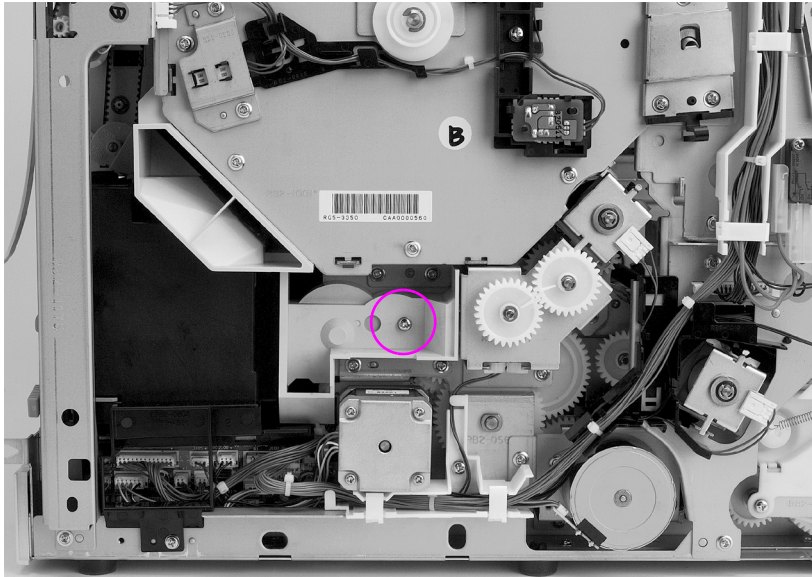

Figure 6-52 ITB clutch assembly removal and replacement (1 of 2)
- 4 Remove the screw shown in Figure 6-52 and remove the plastic shroud.